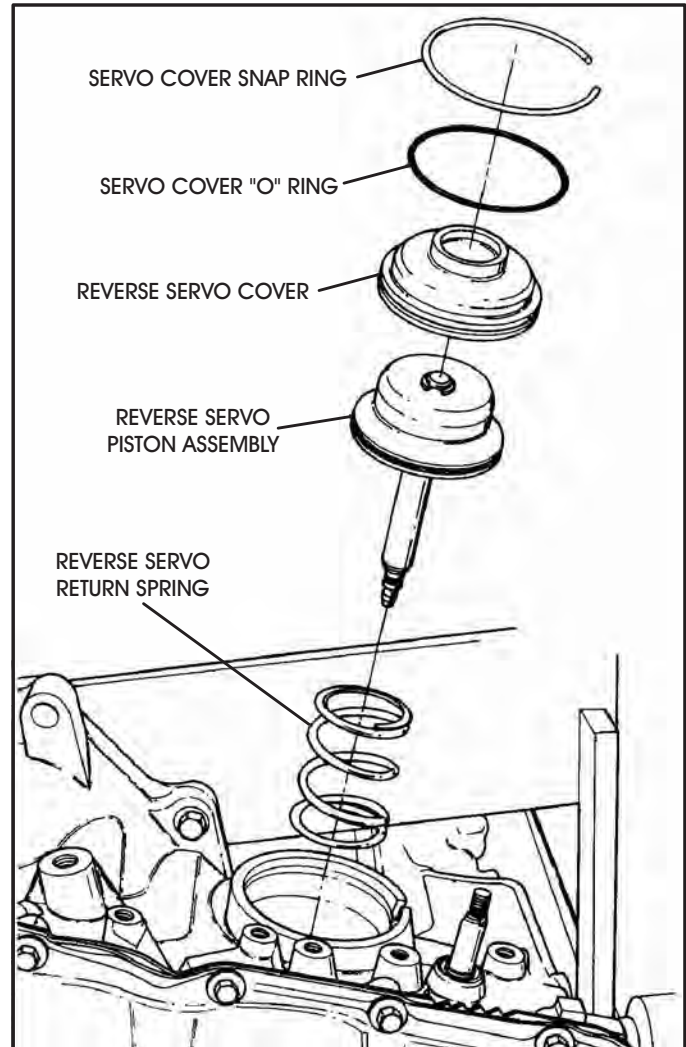

Figure 39
13. Remove the reverse servo assembly from case as shown in Figure 39.